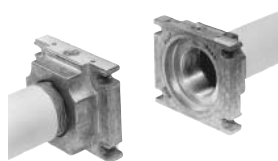

Fig. 29
- 2 Lower the terminal part of the combustion head, by moving it with a slight circular movement, until the holes will match (Fig. 29) and tight the screw shown in Fig. 31.